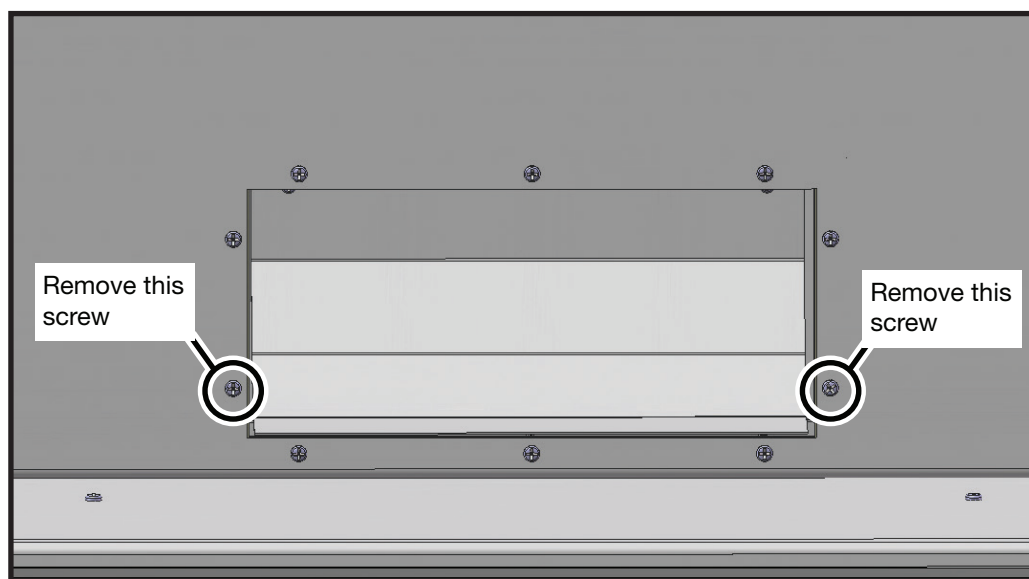

Figure 9: Air channel.
7. Remove the two lower outside screws from the Air Channel as indicated in Figure 9. The lower panel will be attached to the rear wall of the firebox using the two screws just removed.